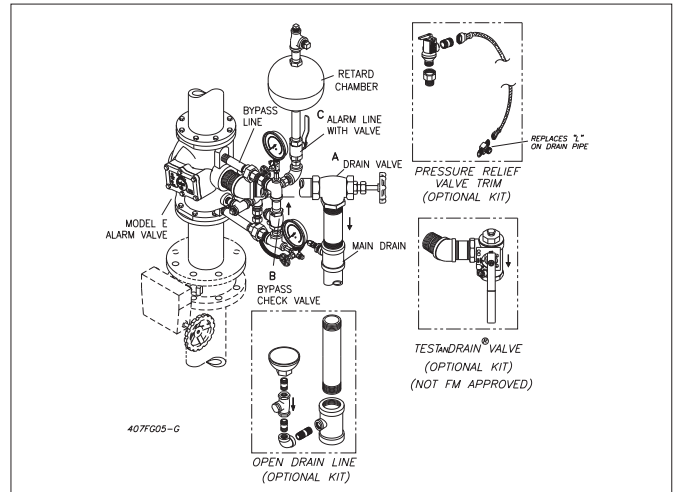

Fig. 3
- a. The By-Pass connection with Check Valve (Figure 3 & 4) allows pressure surges from the supply to by-pass the Alarm Valve Clapper. An excess system pressure is thus created which steadies the Clapper. Should a heavy surge unseat the Clapper and permit water to flow into the alarm line, the Retard Chamber then comes into action.
The E3 trim sets for the Reliable Model E Alarm Valve (Figs. 3 & 4) are arranged for rapid, easy and compact attachment, and serve as connection points to Reliable alarm and other devices. They also act as a means for testing the system to operate. The Model E alarm valves are available in two trims and may be installed in the vertical or horizontal position in the main supply to the wet pipe system:
- **Variable Pressure with Open Retard Chamber Drain**— Retard chamber is required. Optional Drain Line Kit required (see Figs. 3 & 4). This trim set is used where water supply pressures vary. An open drip cup is provided to drain the retard chamber and the mechanical sprinkler alarm line. This drain connection should be piped separately from the 2" main drain.
- The trim set permits both vertical (Fig. 3) and horizontal (Fig. 4) installations.
- A Test_{AN}Drain[®] valve segment is optional, to be purchased separately, as a replacement to the Drain valve (see optional Kit in Figs. 3 & 4).
- All trim sets can be fitted with an optional Pressure Relief Trim Kit (see optional kit in Figs. 3 & 4) to relieve pressures above 175 psi in the sprinkler system, as required by NFPA 13, 3-1.2.